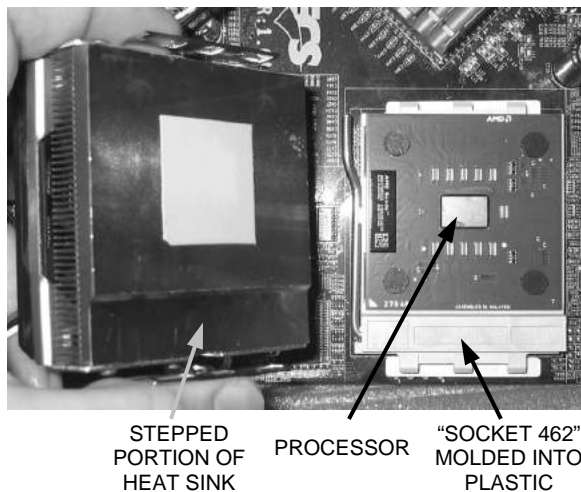
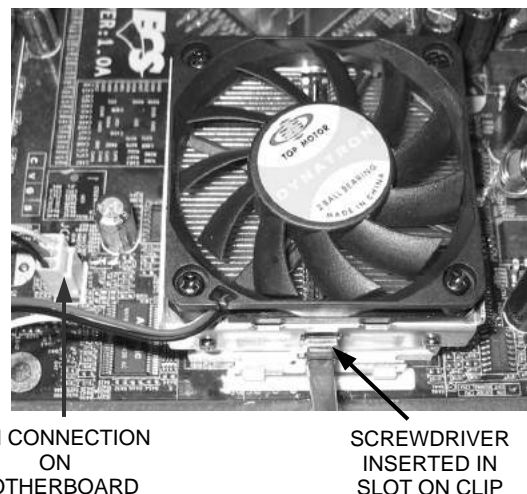

FIGURE 2 – RETENTION FRAME ON MOTHERBOARD
FIGURE 3 – HEAT SINK SECURED WITH SCREW DRIVER
5. Gently and carefully clean the top surface of the processor (see Figure 2) with the supplied alcohol wipe. Be careful to prevent contamination from spreading to other components. Don't spread grease to processor's edge. If necessary, remove any grease on processor's edge with the folded edge of the cleaning wipe.
7. Carefully position the new heat sink assembly in the proper orientation - the stepped portion fits over the top of the socket, where "SOCKET 462" is molded into the plastic (refer to Figure 2). Center it squarely over the retention frame, with the bottom of the heat sink nearly parallel to the top surface of the processor, and attach the heat sink clip (the side of the clip without the hook) to the plastic catches on the motherboard. Then, make sure the second clip is aligned with the plastic catches and very carefully, using a small, flat-head screwdriver on the hook, push downwards with a slight outward motion on the clip to secure it (see Figure 3).
8. Connect the 3-pin connector from the fan to the motherboard. See Figure 3.